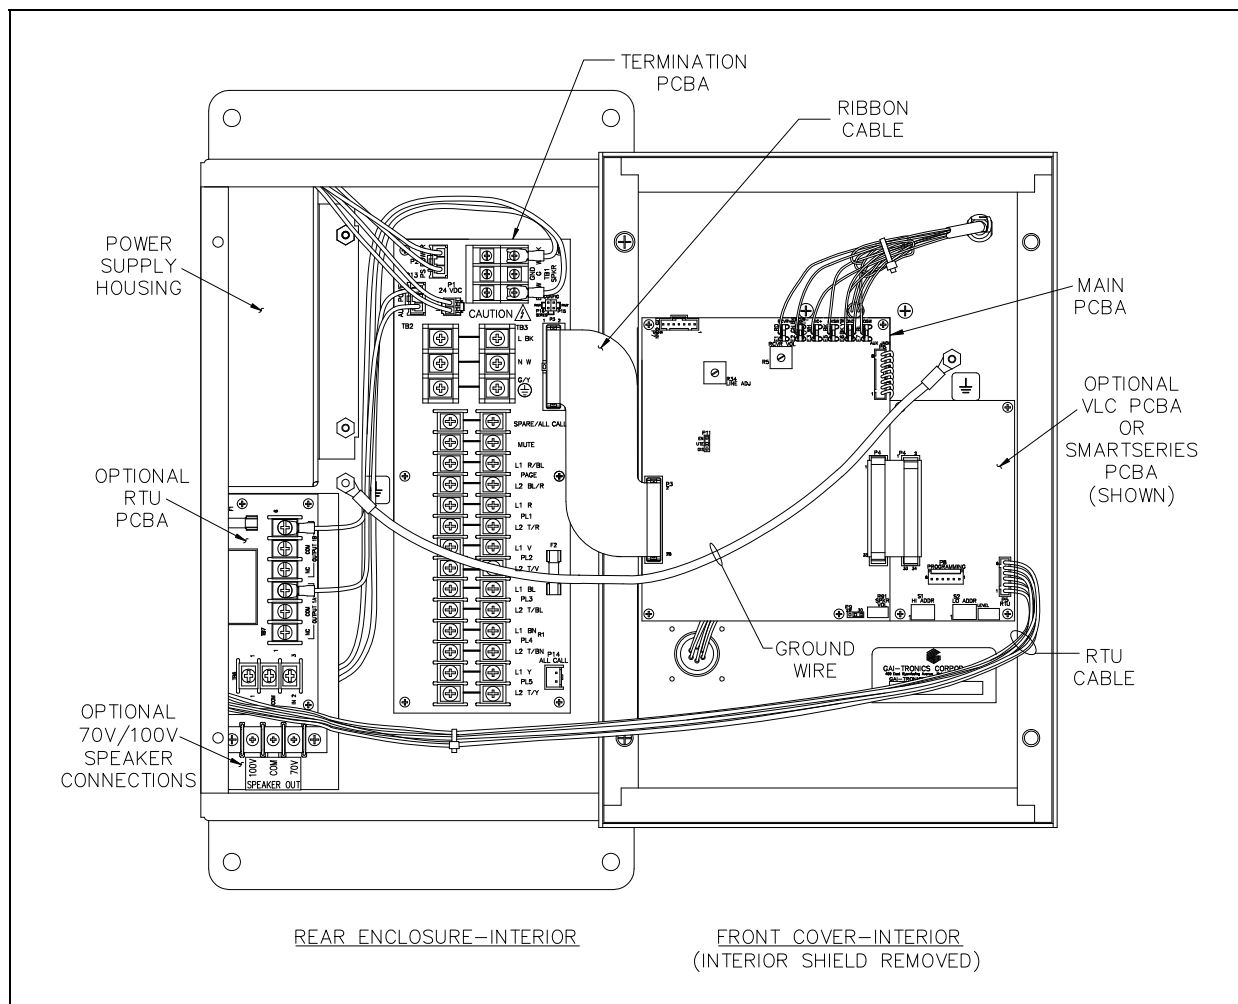

Figure 2. ICS Page/Party® Station Interior View (AC Version shown)
The front panel and back box interiors are now exposed (see Figure 2).
- The front panel and back box interiors are now exposed (see Figure 2).